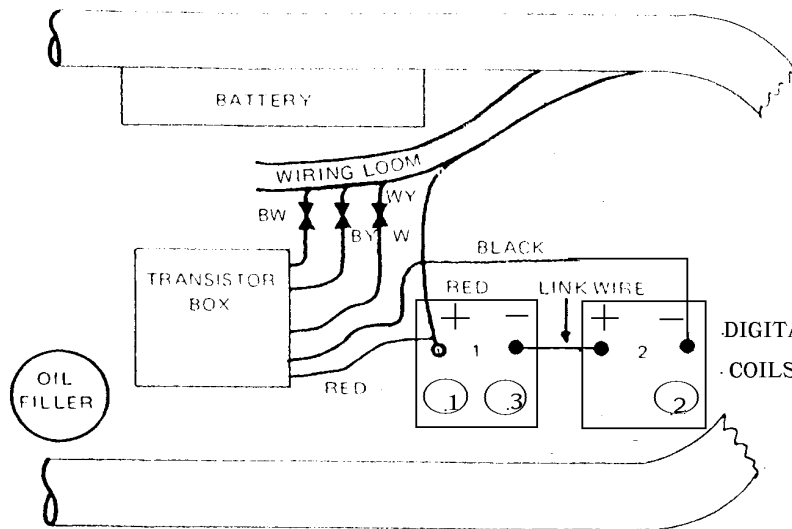

FIG. 1
- 8) Using the coil link wire, join the coils as in Fig.1. For a twinplug system, use two link wires.
- 10) Connect the red wire (with piggyback connector) from the transistor box to the positive (+) terminal of ignition coil no 1 then fit the red wire removed from the condenser pack at instruction (7) See Fig.1
- 11) Connect the black wire from the transistor box to the negative terminal of ignition coil no.2 See Fig.1